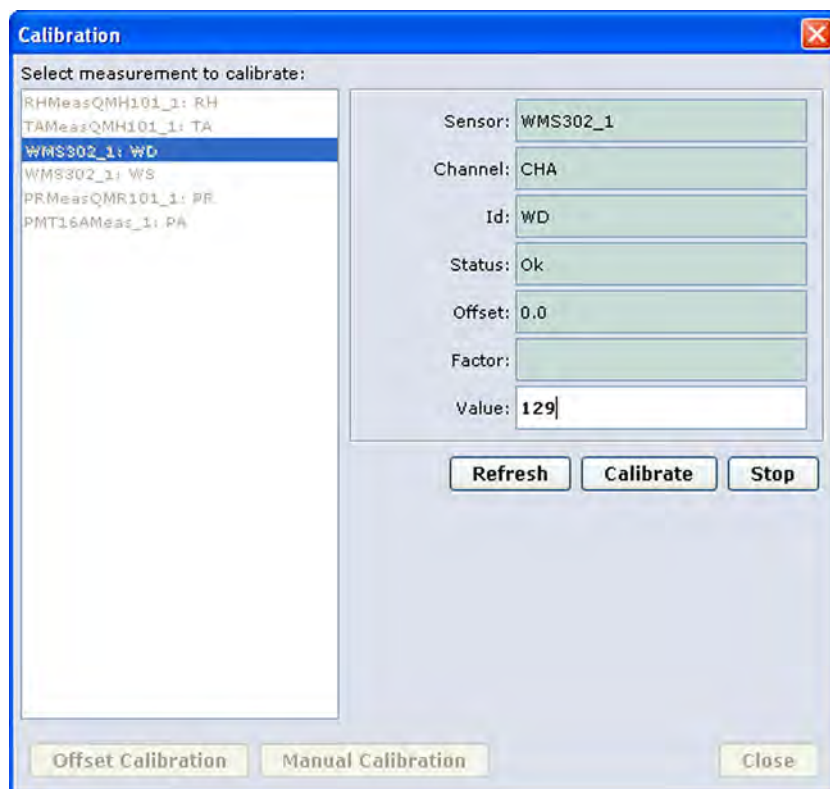

Figure 60 Settings Menu: Calibration Window
2. For conventional sensors, open the **Calibration** window from the **Settings** menu in the AWS Client software; see Figure 60 on page 125. The sensor list is displayed on the left side of the window. The **Status** field shows the status of the selected sensor. To read the latest sensor status and measurement values, click the **Refresh** button. Table 29 on page 126 describes the other fields in the **Calibration** window.